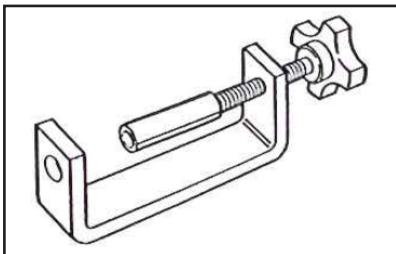

Fig. 2
5. Remove locknut (11) from slave piston adjusting screw (Auto-Lash) (12) and back out screw until the slave piston is fully retracted.
6. Install the slave piston tool P/N 017397 (Fig. 2) with the adjusting screw fitted into the hole in the tool.